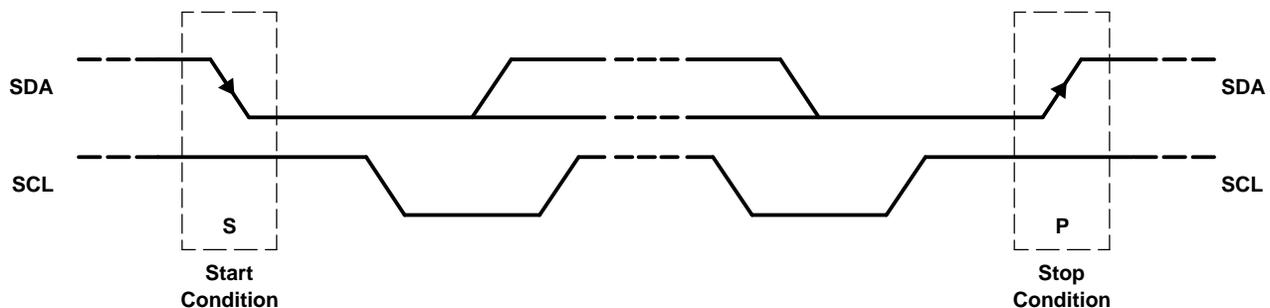

Figure 41. START and STOP Conditions
- The *master* initiates data transfer by generating a *start condition*. A *start condition* is initiated when a high-to-low transition occurs on the SDA line while SCL is high, as shown in Figure 41. All I²C-compatible devices should recognize a *start condition*.
- To signal the end of the data transfer, the master generates a *stop condition* by pulling the SDA line from low to high while the SCL line is high (see Figure 41). This releases the bus and stops the communication link with the addressed slave. All I²C-compatible devices must recognize the stop condition. On the receipt of a *stop condition*, all devices know that the bus is released, and they wait for a *start condition* followed by a matching address.